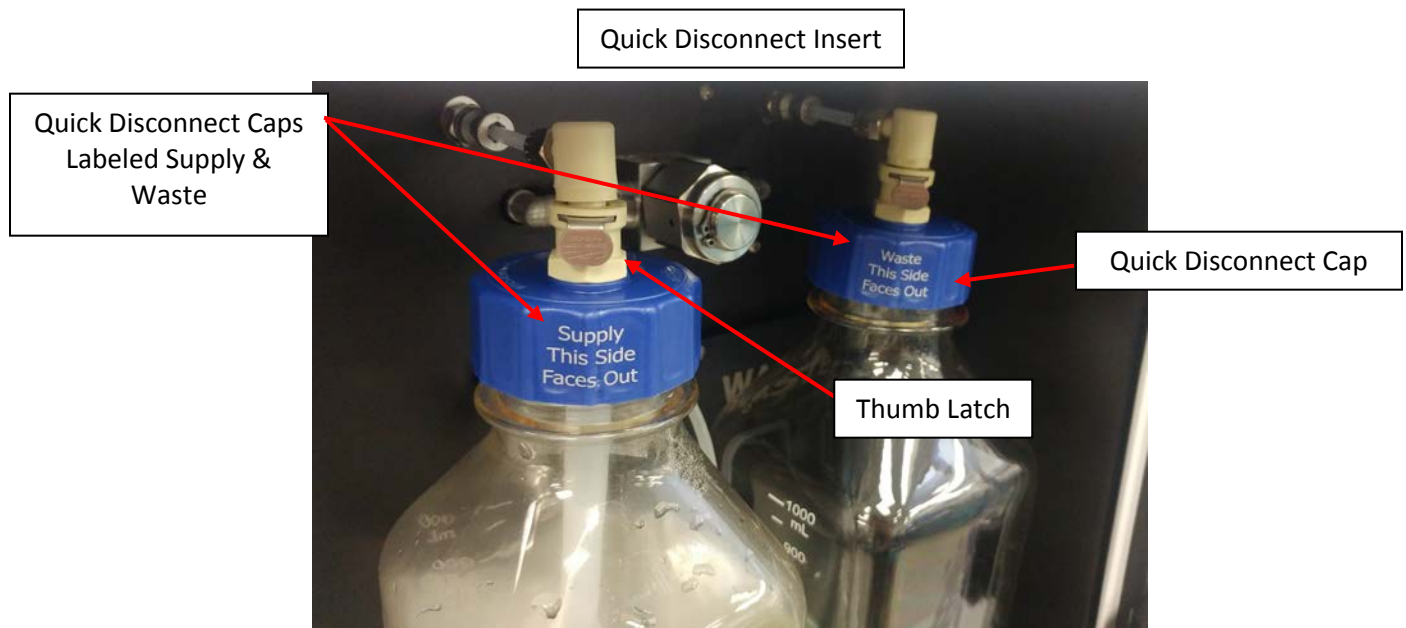

Figure 1 – Quick Disconnect Components
1. Disconnect the bottle by pressing the thumb latch on the Quick Disconnect Cap. See Figure 1.